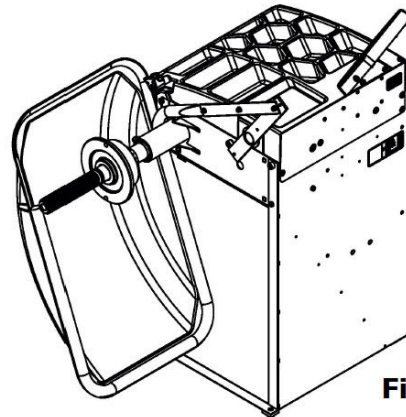

Fig. 2
5. Remove one screw holding the Hood bracket to the balancer arm. Fig. 2